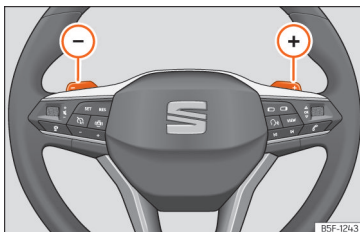

Fig. 91 Steering wheel: automatic gearbox levers
- Press the (+) gear shift paddle to change up a gear »» Fig. 91.